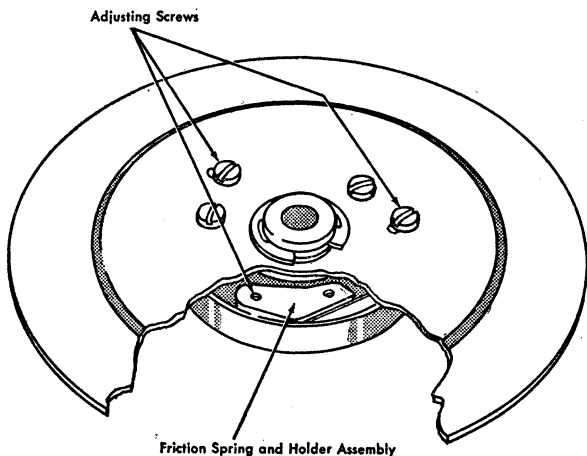

Figure 6. Intermediate Ribbon Spool Flange
3. RIBBON FRICTION DRUM. The friction drum on the intermediate spool flange of the ribbon mechanism should be adjusted by shifting the three adjusting screws in their slots, so that unwinding of the ribbon supply spool requires 7 to 10.5 ounces pull (Figure 6).